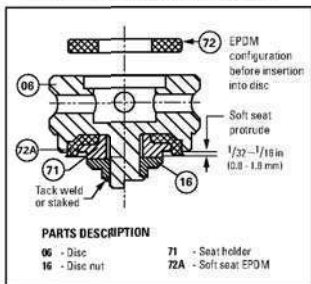

Figure 8.1A Piston disc with a replaceable EPDM soft seat
1. **EPDM seat:** If replacing an EPDM seat (Figure 8.1A), remove tack weld or staked area by grinding or filing. Carefully unscrew the disc nut (16) from the disc. Remove the seat holder (71), then the EPDM soft seat (72A). Thoroughly clean the piston disc soft seat area and disc post threads, removing any burrs and or particles of foreign matter. Install a new EPDM seat, replace seat holder and screw on the disc nut.